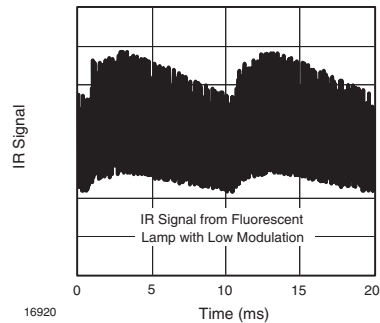

Fig. 14 - IR Signal from Fluorescent Lamp with Low Modulation
- Modulated IR signals from common fluorescent lamps (example of noise pattern is shown in fig. 14 or fig. 15)